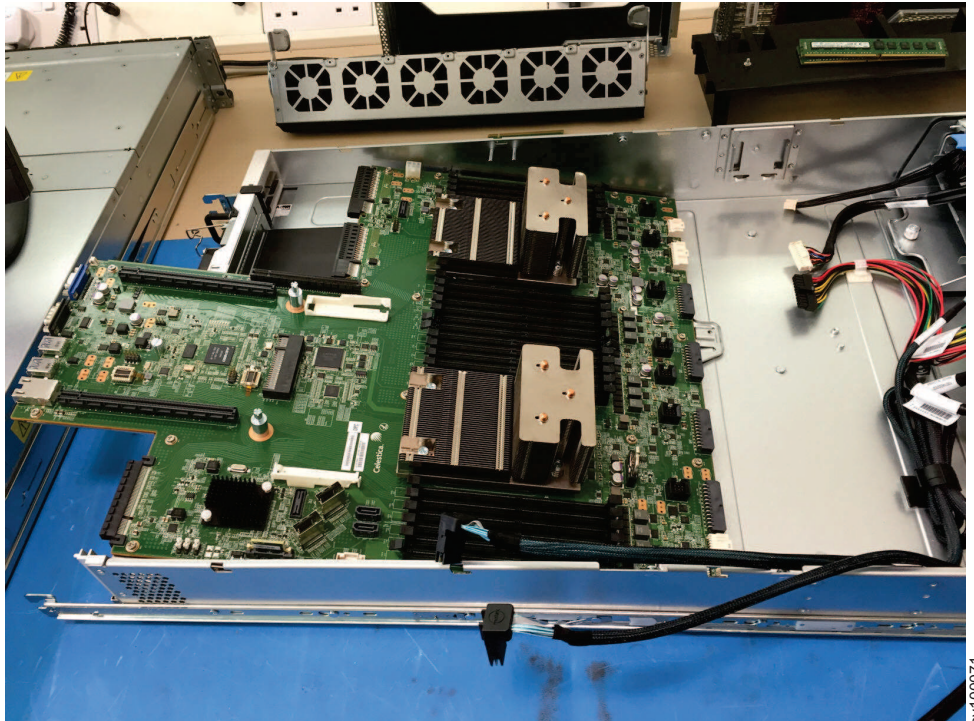

Figure 317. Removing the 2145-SV1 main board
15. Carefully push the main board forward a little to release it. Then, raise the main board at a slight angle, as shown in Figure 317 on page 378.